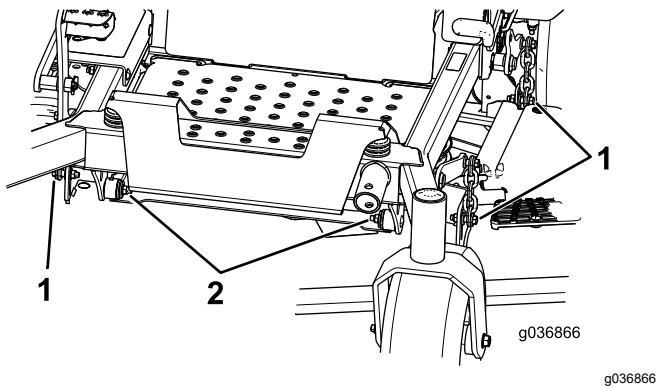

Figure 81
7. Remove and retain the bolts and nuts on both sides of the machine (Figure 81).